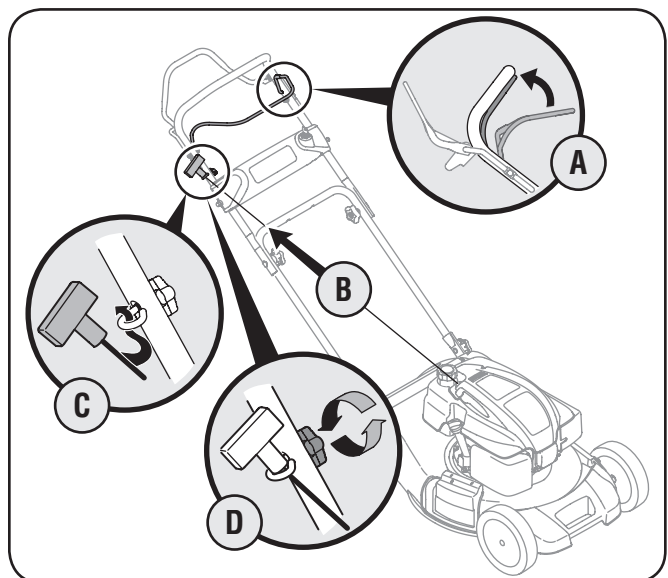

Figure 3-3
- The rope guide is attached to the right side of the upper handle. Loosen the wing nut which secures it to the upper handle. Refer to Figure 3-3.